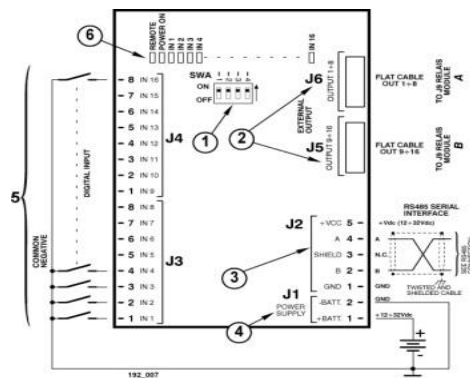

Fig. 1a CPU 16 inputs E61020934xx ver. A
3.2 CPU 16 Inputs module (ref. - fig. 1a and 1b)